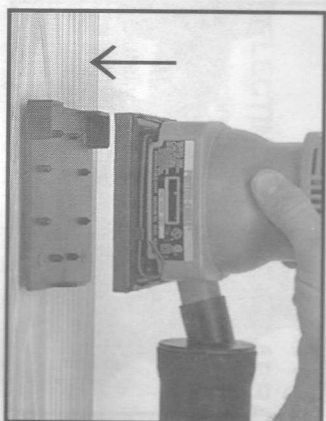
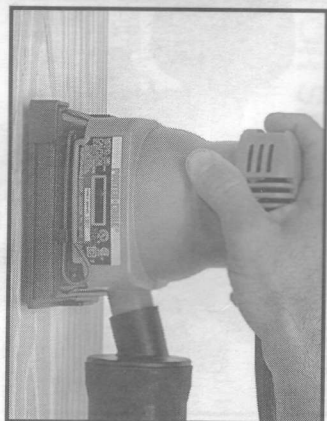

Fig. 6
Fig. 7
3. Position the sander to the punch (see Fig. 6), aligning the sander pad with the two corner guides on the punch. Push sander onto the punch until seated (see Fig. 7).